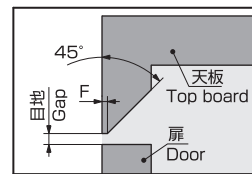

図2 (Figure 2)
- ※扉上部と天板との隙間を少なくする為、筐体を図2及び表2を参考に面取り加工をしてください(推奨)。
- ※Please process the cabinet according to Figure 2 and Table 2 in order to reduce the gap between the top board and the door.